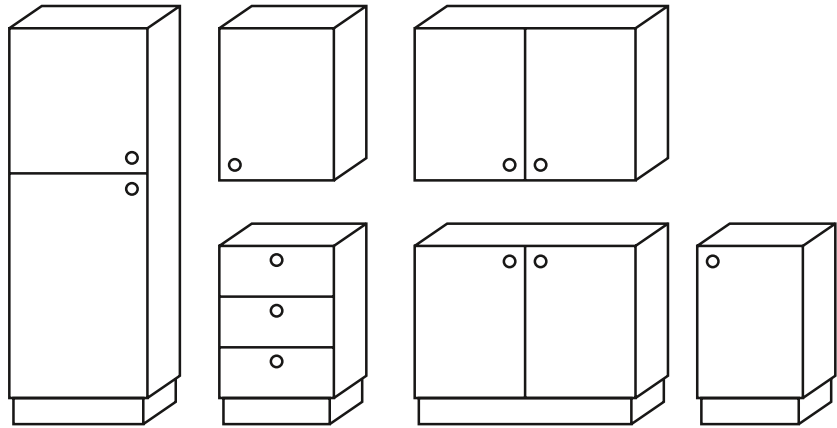

Figure 2.06 Range drawing
- range drawings, which show the different sizes and shapes of a particular range of components (see Figure 2.06). These are usually drawn at a scale of 1:50 or 1:20